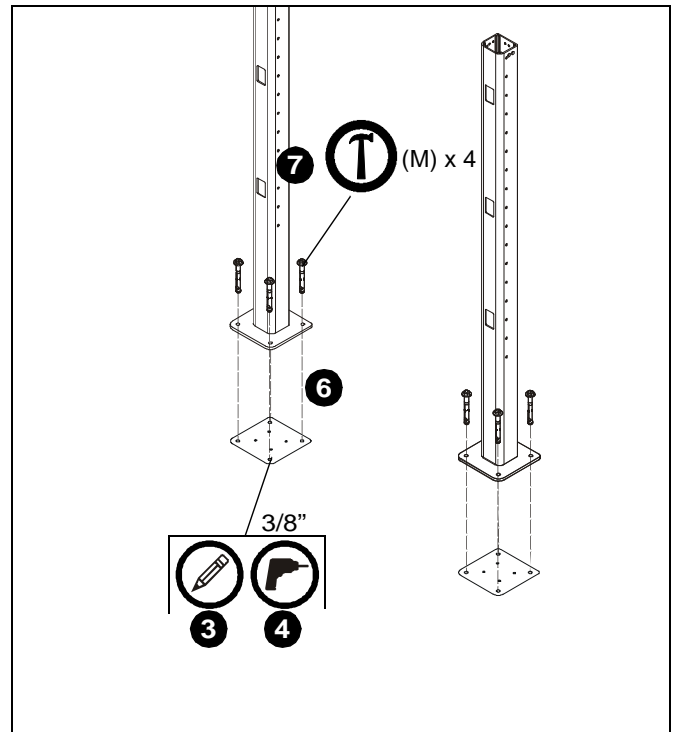
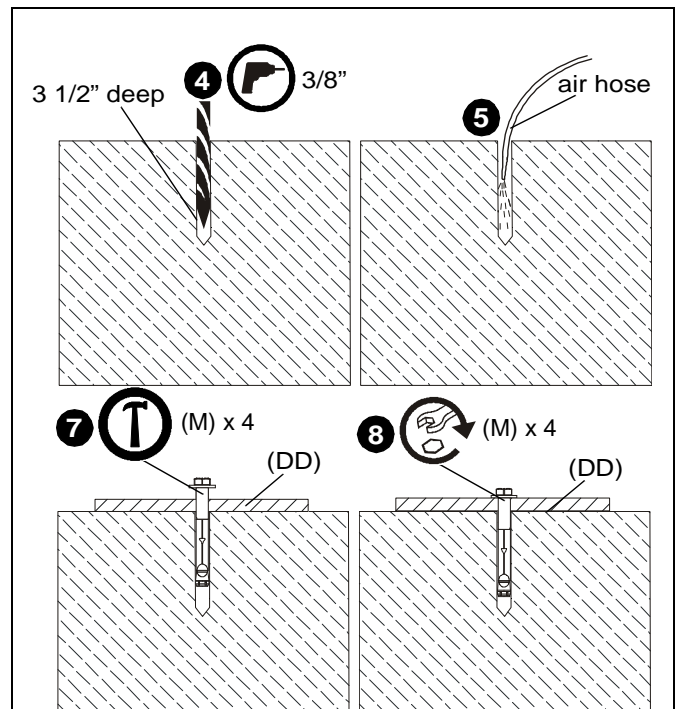

Figure 2
Figure 3
3. Using bolt down plates (DD) as templates, mark four holes at outside hole locations for each column. (See Figure 2)
4. Using a 3/8" drill bit, drill a hole 3 1/2" in depth at each marked location. (See Figure 2) and (See Figure 3)
5. Blow each hole clean of any concrete debris with a large air hose or compressed air in a can. (See Figure 3)
6. Place each bolt down plate (DD) on top of drilled holes making sure holes on plate are aligned with drilled holes. (See Figure 3)
7. Use a hammer to drive anchors (M) through plate holes into the drilled holes until the bolt head is firmly seated against the plate. (See Figure 2) and (See Figure 3)
8. Tighten each anchor by turning the head three to four turns past finger tight. (See Figure 3)